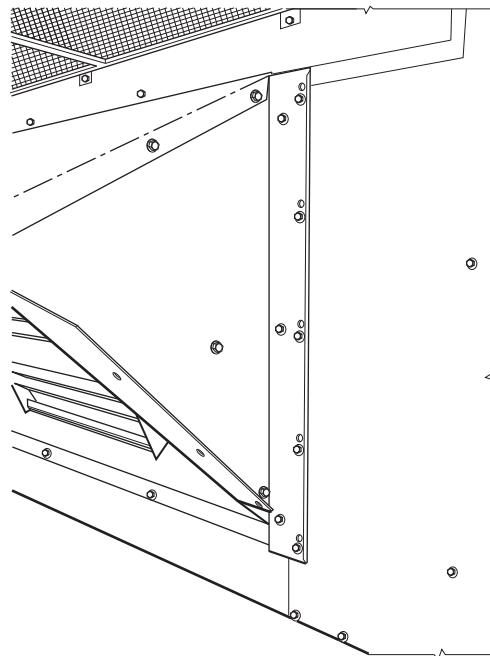

Fig. 23 – Bracket and Hood Positioning
4. With screws saved from Step 1, install brackets on each side of damper assembly. (See Fig. 23.)